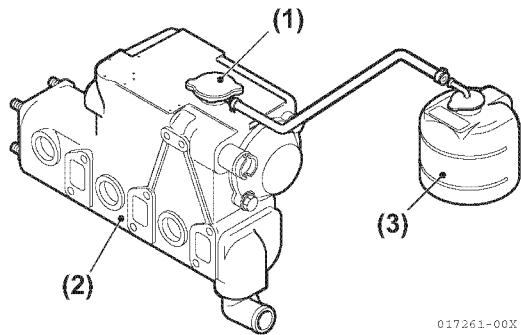

Figure 5-205
77. Fill with water in the coolant recovery tank until the level is between the full and low marks (**Figure 5-205**).